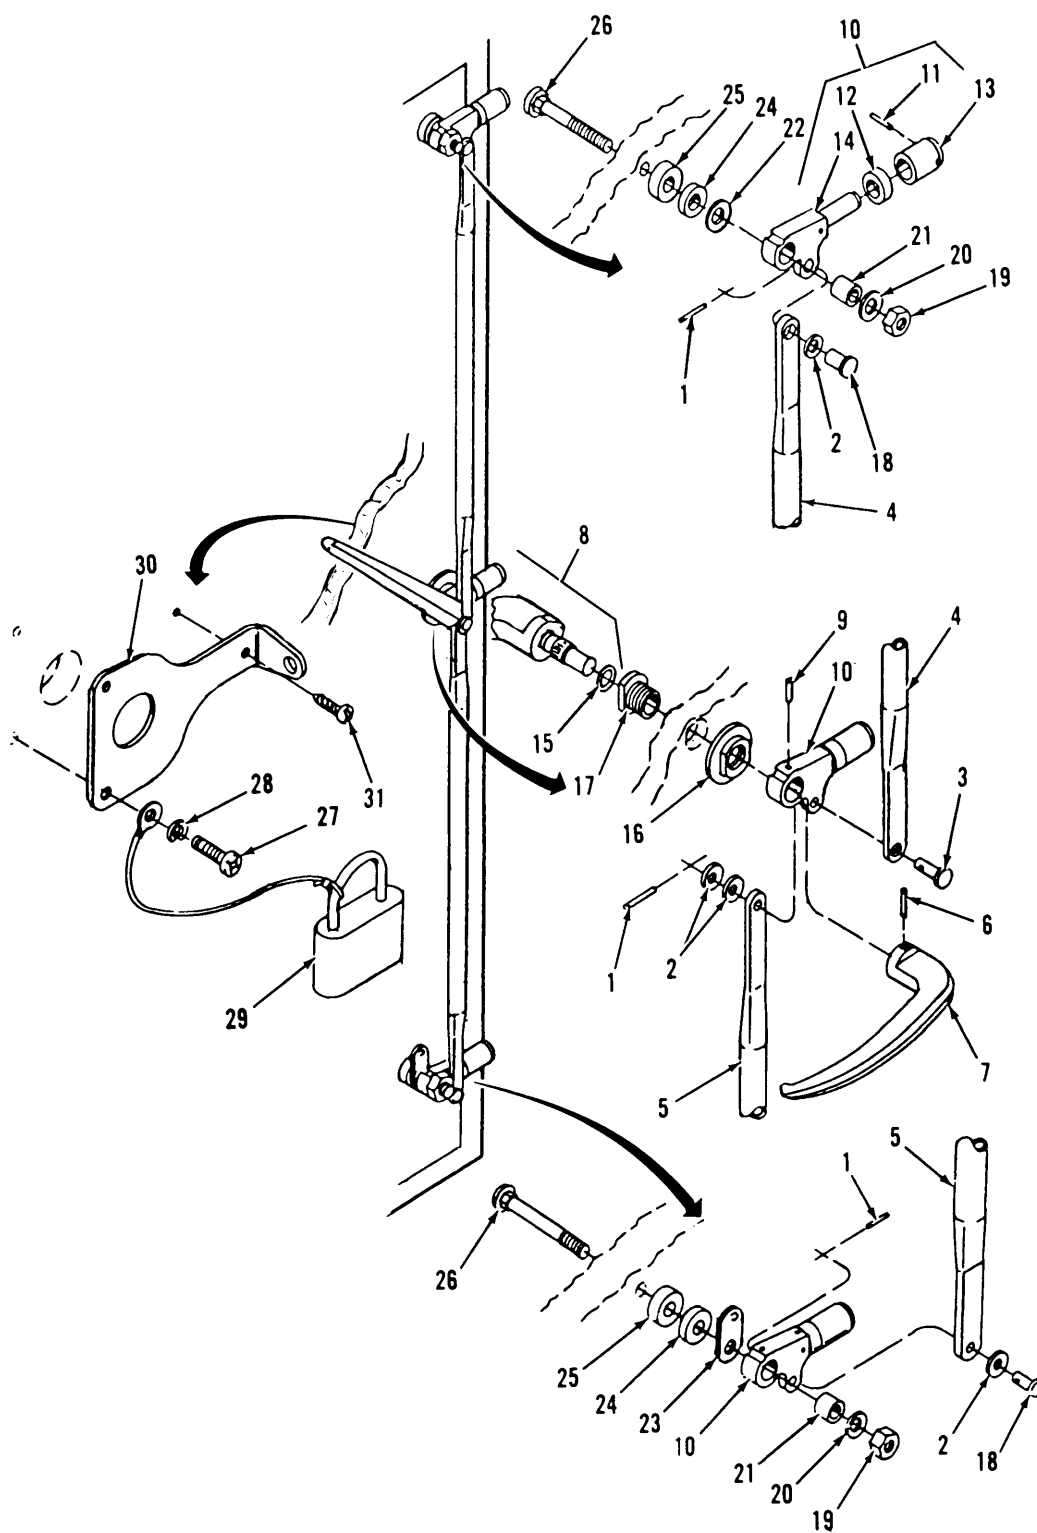

Figure 3-23. Door Latch Replacement
- (1) Inspect the door latch assembly for secure mounting and broken or worn parts.
- (2) Inspect for ease of operation.
- (3) Inspect the door handle for tightness and for worn or damaged parts.
- b. Service. (Figure 3-23) Service of the door latch assembly consists of lubricating the door handle (8) and latch arm assemblies (10) with lubricant once per month.
- c. Disassemble. (Figure 3-23)